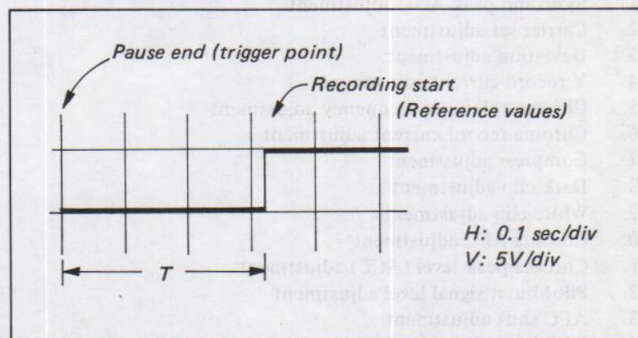

Fig. 5-3-13. Edit adjustment
<p>3) Edit Adjustment (MA-3 and LS-8 Boards)</p> <p>Mode: Record</p> <p>Signal: Arbitrary signal </p> <p>Oscilloscope: Pin ④ of IC401 on MA-3 board  External trigger: pin ②① of IC401 on MA-3 board</p> <p>Trigger slope: -</p> <p>Input: DC range</p> <p>Sweep mode: NORMAL</p> <p>[Adjustment method]</p> <p>i) Set up the PAUSE mode. (more than 3 sec)</p> <p>ii) Push the PAUSE button again to clear the PAUSE mode (adjust the trigger level of the oscilloscope to triggerit), and adjust RV205 on the LS-8 board until the time T between the end of pause to the waveform rise point becomes a maximum.</p>  <p>Fig. 5-3-13. Edit adjustment</p>	<p>3) Edit Adjustment (MA-3 and LS-8 Boards)</p> <p>Mode: Record</p> <p>Signal: Arbitrary signal</p> <p>Oscilloscope: Pin ④ of IC301 on MA-3 board External trigger: pin ②① of IC301 on MA-3 board</p> <p>Trigger slope: -</p> <p>Input: DC range</p> <p>Sweep mode: NORMAL</p> <p>[Adjustment method]</p> <p>i) Set up the PAUSE mode. (more than 3 sec)</p> <p>ii) Push the PAUSE button again to clear the PAUSE mode (adjust the trigger level of the oscilloscope to triggerit), and adjust RV205 on the LS-8 board until the time T between the end of pause to the waveform rise point becomes a maximum.</p>  <p>Fig. 5-3-13. Edit adjustment</p>